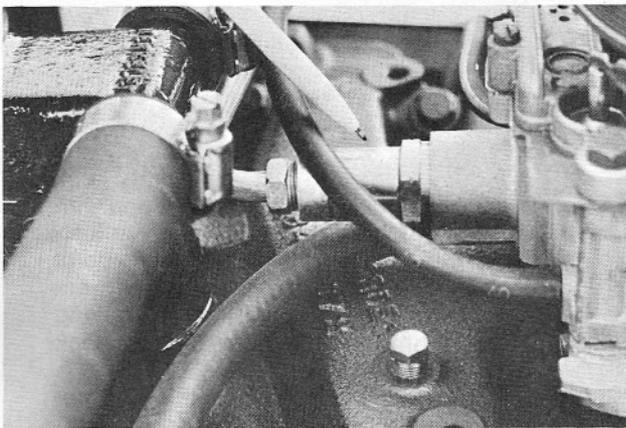

Figure 23
**F. FUEL FILTER** Located within the fuel line adapter fitting at the front of the carburetor is the fuel inlet filter (Figures 23, 24). It is of the paper element type and should be replaced once every 12 months.
- A. Remove fuel inlet nut, gasket and filter (Figure 23).